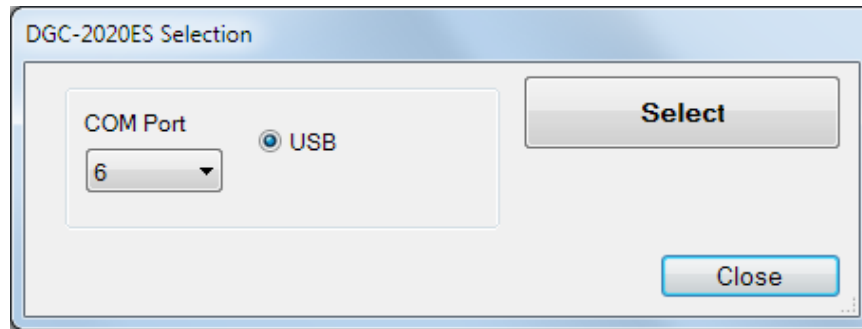

Figure 3-15. DGC-2020ES Selection
9. After selecting *Yes*, the *DGC-2020ES Selection* screen will appear. Select the communication port to begin upload. Refer to Figure 3-15.